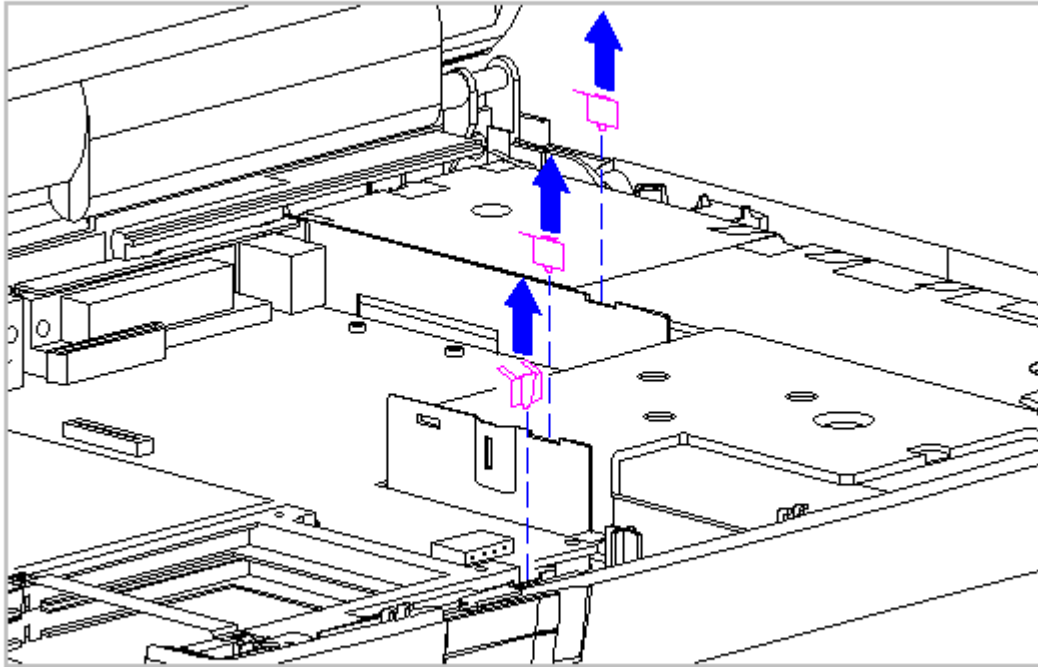

Figure 3-51. Removing the Keyboard Ground Clips from the System Board
13. Remove the three keyboard ground clips from the system board (Figure 3-51).